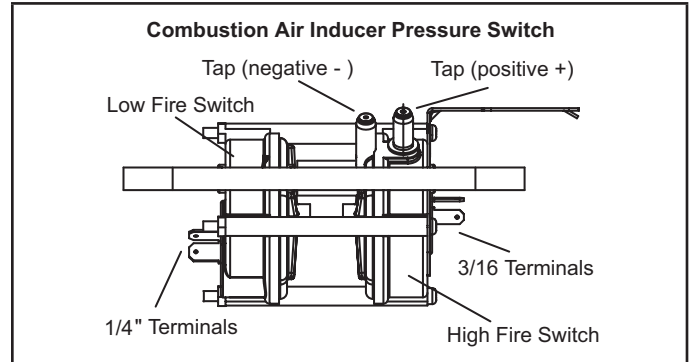

FIGURE 17
8. Combustion Air Inducer Pressure Switch (S18) (FIGURE 17)